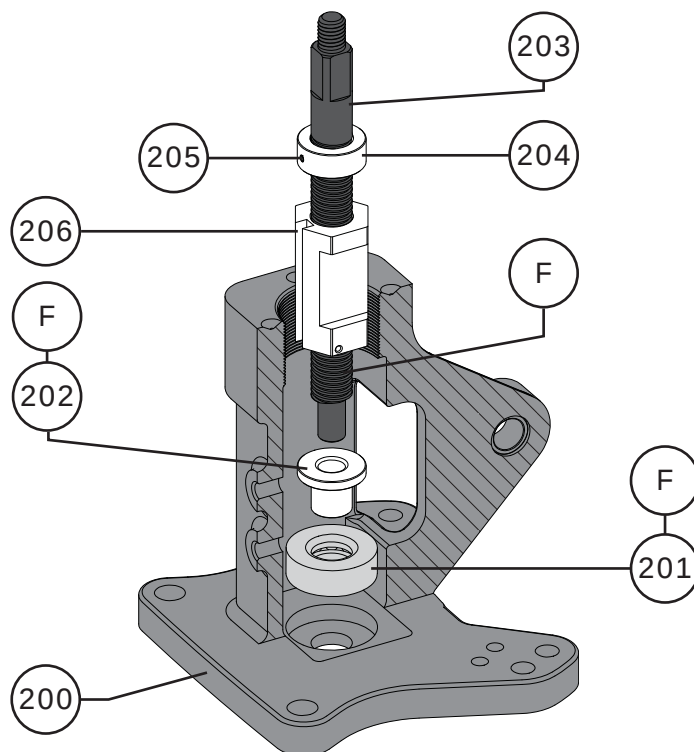

Figure 61 Size 069 Bearing & Bushing Installation
- 4 **For Size 069:** Lubricate the inside and outside surface of the bushing (Key 202) and install it into the bearing from Step 3. Refer to Figure 61.
- 5 Lubricate the threads of the handwheel screw (Key 203) with Mobil Unirex™ Lotemp Grease (Key F) and thread the operating nut (Key 206) onto the handwheel screw as shown in Figures 61, 62, & 63. **NOTE:** The operating nut and handwheel screw are reverse threaded.
- 6 Set the handwheel screw (Key 203) / operating nut (Key 206) assembly into the handwheel body (Key 200) as shown in Figures 61 and 62.